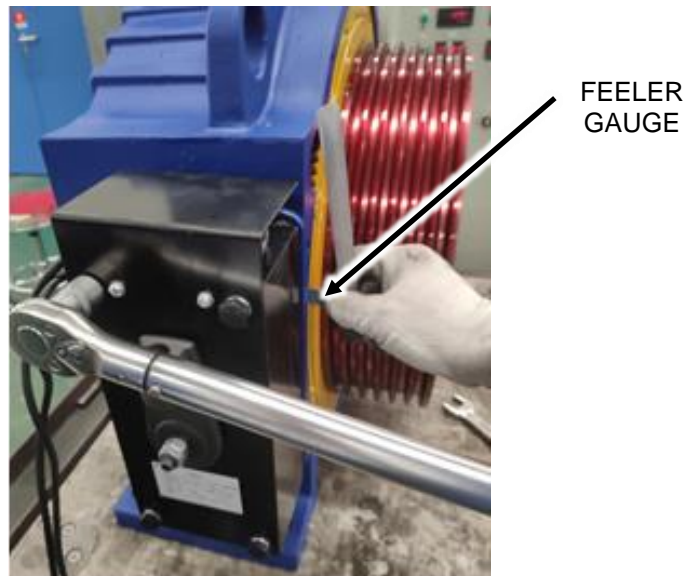

Figure 9
1. Using a 16 mm wrench, loosen the four fixed bolts. See Figure 9.
3. Confirm the air gap is between 0.012" (0.30 mm) to 0.022" (0.55 mm) using a 0.012" (0.30 mm) and 0.014" (0.36 mm) go no-go feeler gauge. See Figure 9.